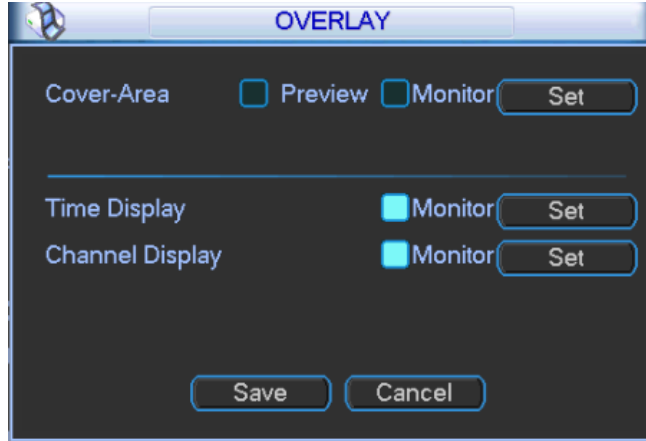

Figure 3-33
Step 1 Click "Overlay", and the system displays "Overlay" interface, as shown in Figure 3-33.